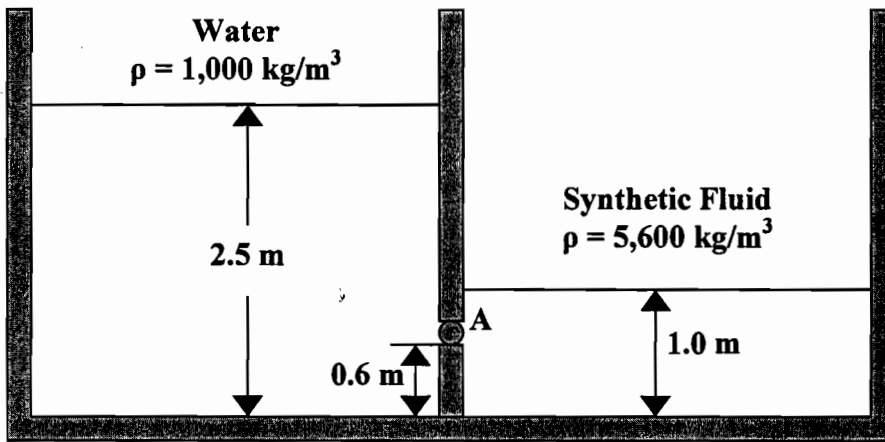

Figure Q4
4. (a) A tank is constructed, as shown in Figure Q4, with a solid partition in the middle which has a gate at its bottom. The gate is hinged at Point A and is free to swing to the left or right. The tank is filled with water on one side of the partition and a synthetic fluid on the other side of the partition as shown in the diagram. Calculate the magnitude and line of action of the resultant force on the gate due to the two liquids and determine in which direction the gate will move? (12 marks)